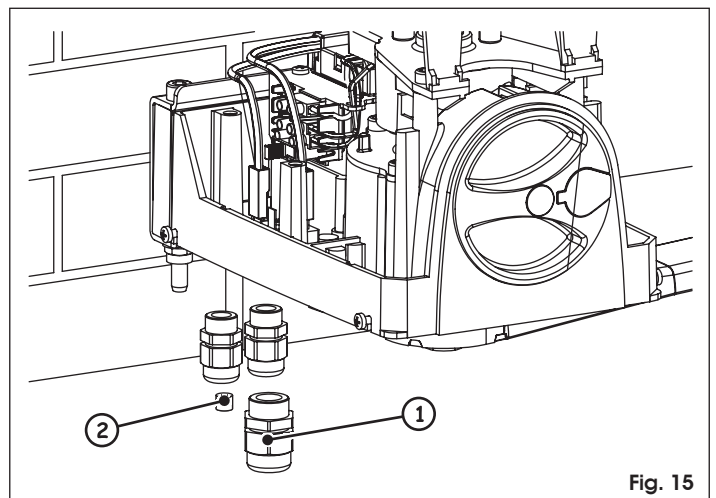

Fig. 15
1. Install all the three supplied cable grippers with the securing nuts (Fig. 15).
**Always use the largest cable gripper (Fig. 15 ref. ①)**
**If the other two cable grippers are not used, they must be closed, using the supplied plugs (Fig. 15 ref. ②). Fit the plastic plug in the cable routing hole and close the cable gripper until it is tight.**